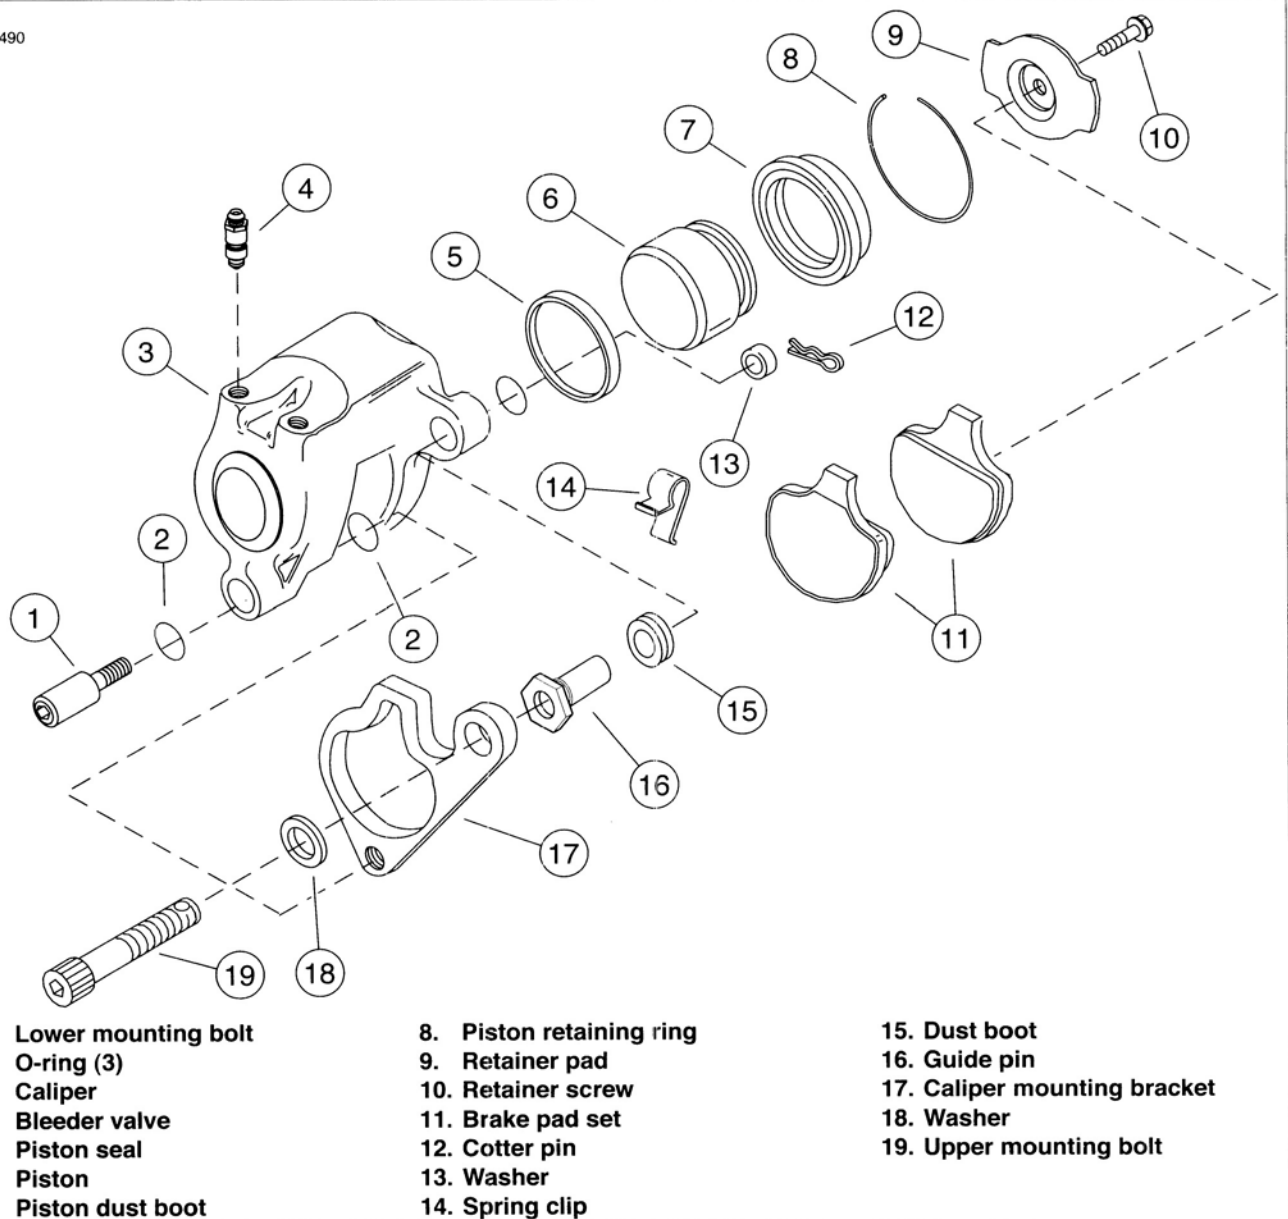

Figure 2-42. Caliper Assembly
1. See Figure 2-42. Remove retainer screw (10), retainer pad (9) and inside pad of brake pad set (11).
2. Remove the outer pad of brake pad set (11), mounting bracket (17) and spring clip (14) as an assembly. Remove
1. See Figure 2-42. Apply a thin coating of G.E. VERSILUBE® #G322 L SILICONE GREASE to the exterior surfaces of piston seal (5) and o-rings (2) in their respective grooves.
2. Push the piston dust boot (7), with the open side downward, over the top of the piston. Push downward on the boot until the inner lip seats in the groove at the top of the piston.
3. Coat the outside diameter and bottom chamfer of piston (6) with GE Silicone Versilube grease (G322L) and push the piston with dust boot into the piston bore. If necessary, press the piston in with a "C" clamp.
12. See Figure 2-42. Take the outer pad of the brake pad set (11) (with insulator backing) and place it on top of the spring clip with the lower end of the pad slightly entering the opening of the mounting plate. With the pad centered within the mounting plate and the insulated back facing downward, push down on the pad until it is against the flat surface and is held firmly by spring tension from the spring clip.
13. Insert the outer pad of the brake pad set (11), mounting bracket (17), and spring clip (14) assembly into place with the backside of the pad against the face of the piston.